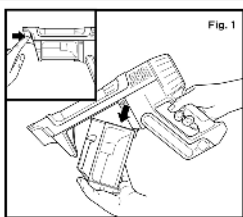

Fig. 1
- To remove the dust cup on your IP3000 hand vacuum, press the release button and slide the dust cup off the hand vac (Fig. 1).